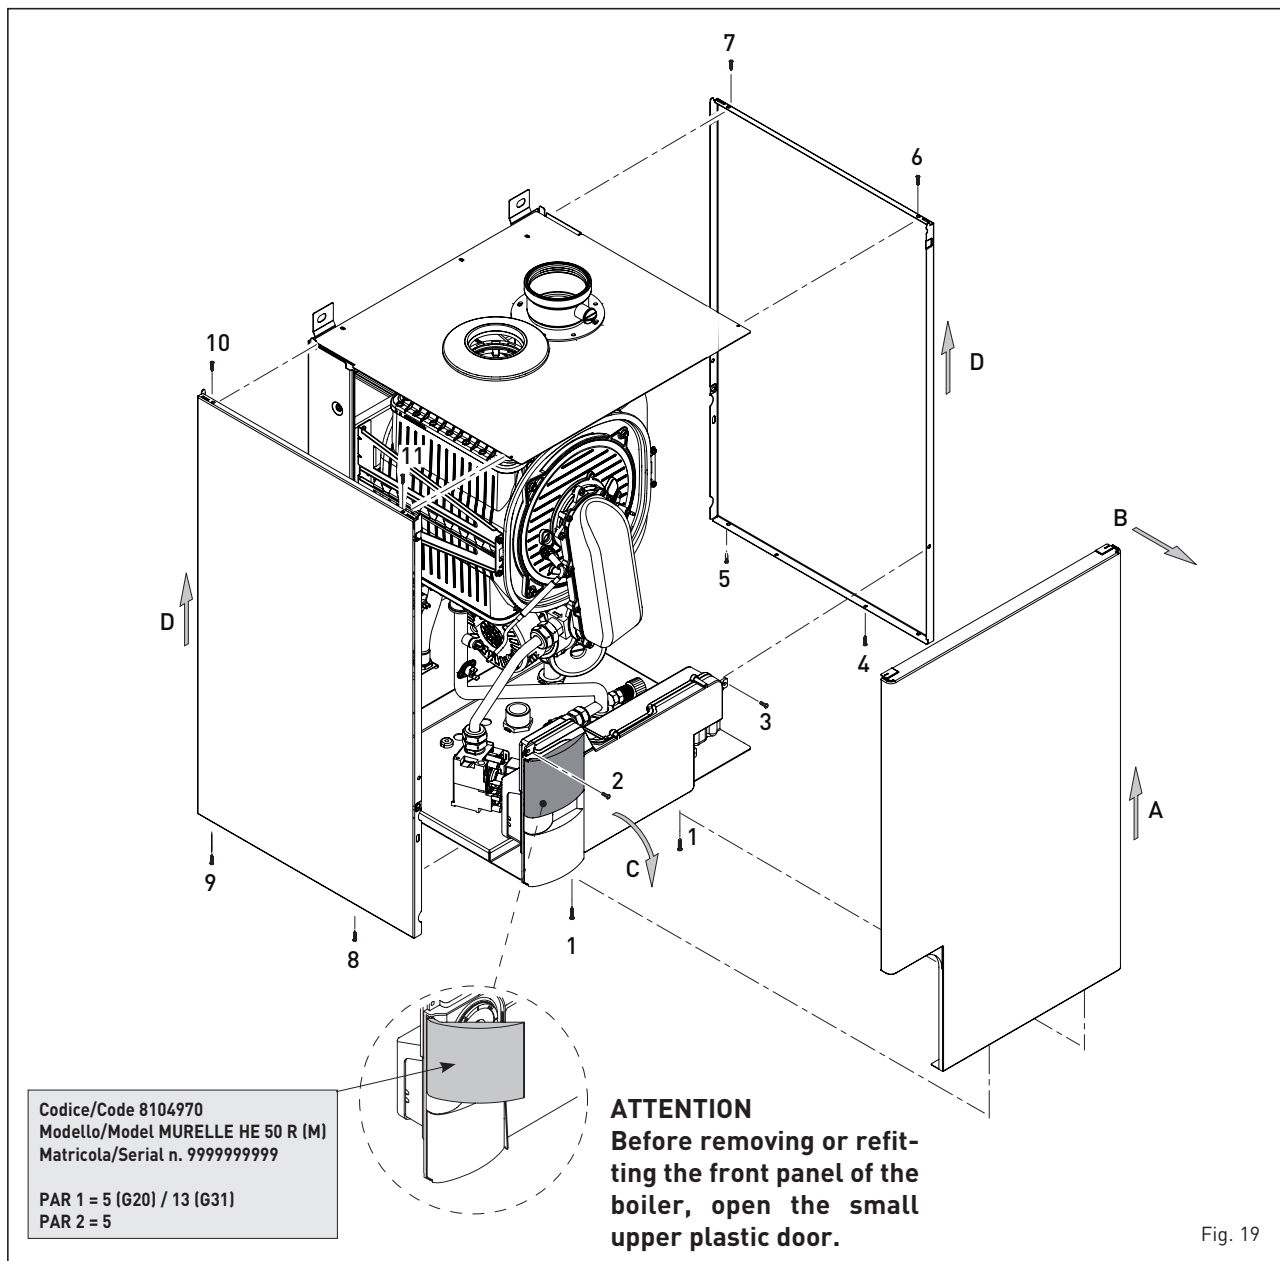

Fig. 19
the boiler, it is also possible to completely remove the shell, as shown in figure 19.
4.4 DISASSEMBLING THE SHELL (fig. 19)